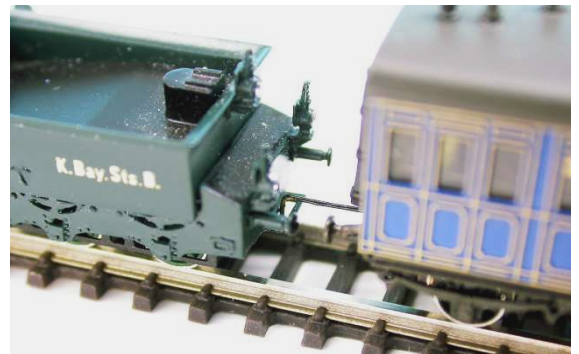

figure 2: Coupling with a coupler ring
5. The model works with the usual coupler ring, figures 2 and 3.